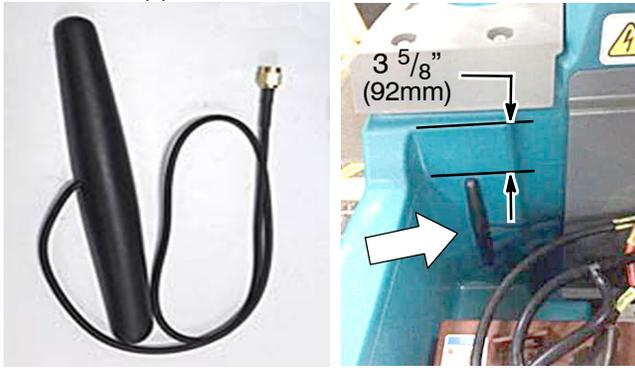

Fig. 5
- See * **NOTE** on page 1: Install the supplied telemetry antenna to tank as shown (Figure 5). Remove the old antenna(s) from machine and discard.